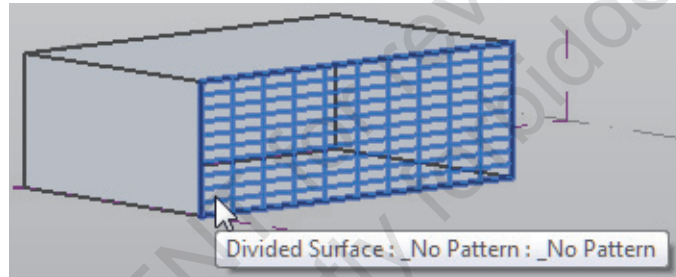

Figure 1–77
5. In the Type Selector, select a pattern from the patterns available, as shown in Figure 1–78.